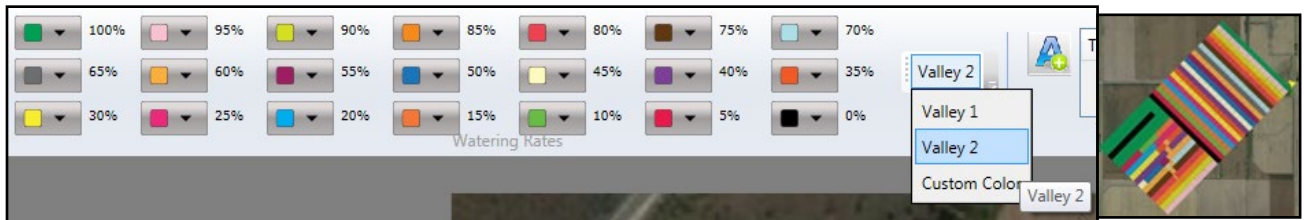

Figure 19-2
- (2) **Valley 2** (Figure 19-2) designed with varying high contrast colors.